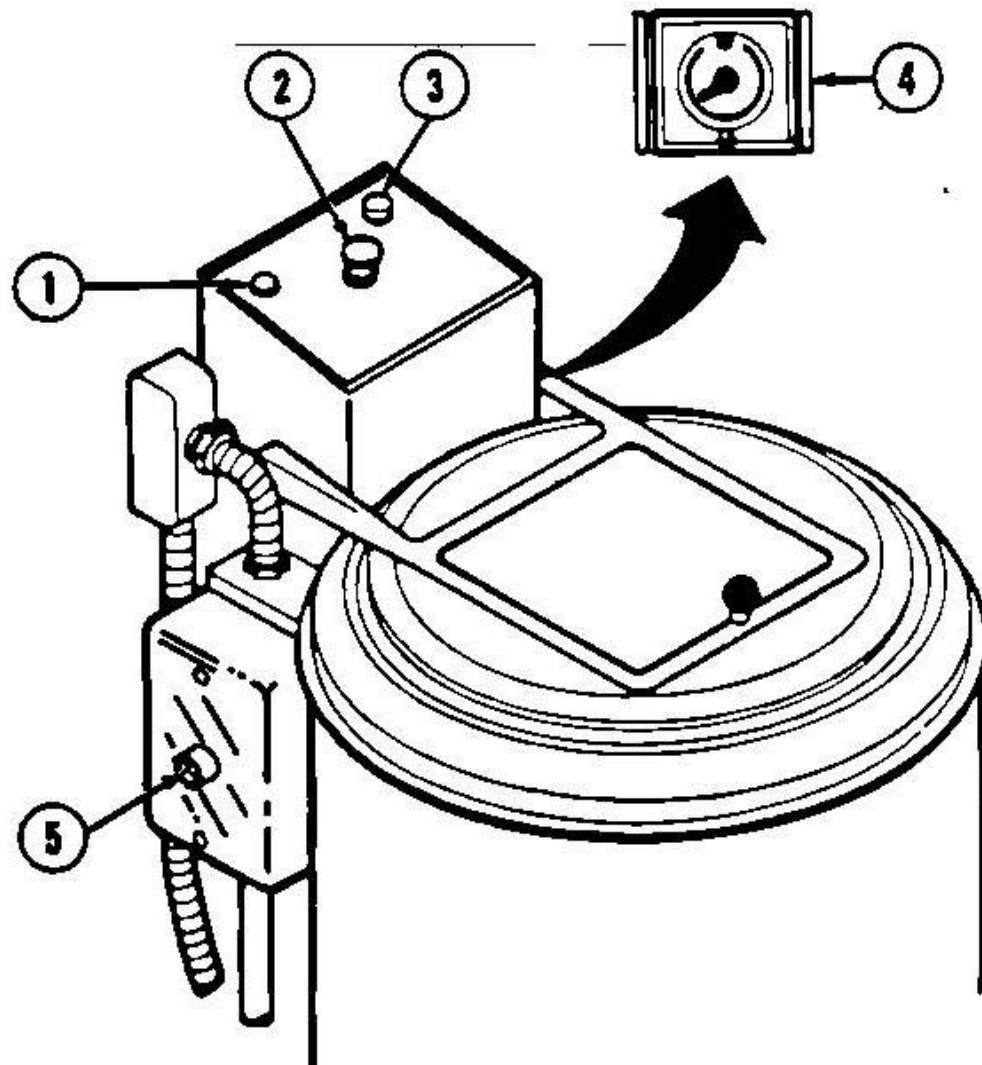

Figure 3-28
- g. Check burner peep sight (3) for cracks or missing cover.
- (1) Turn grease cups one quarter turn daily (before Operation).
- (2) Add grease as needed and check flexible coupling (check TM for lubrication order "LO").
- (3) Inspect chain for broken links and tension.
17. Inspect extractor (See Figure 3-28).